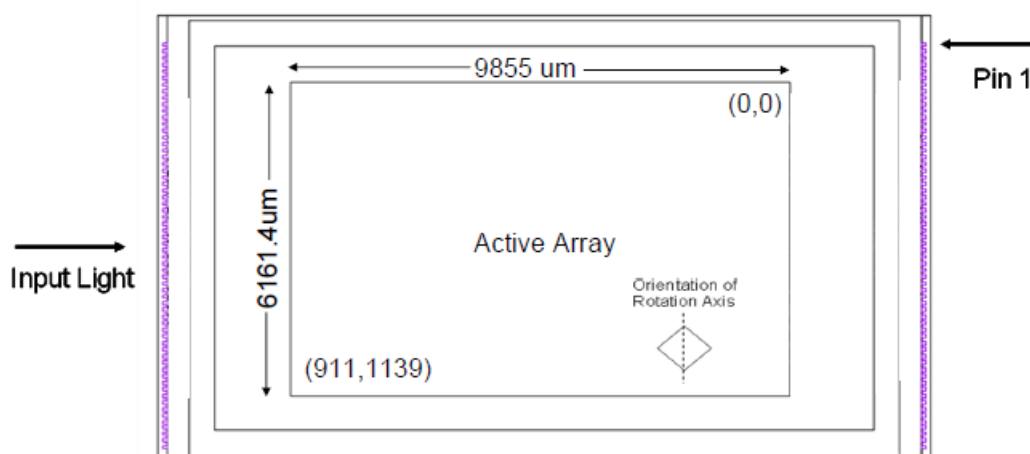

Figure 4. DLP4500NIR Micromirror Active Area
(1) See Micromirror Array, Pitch, and Hinge-Axis Orientation.
(2) See Micromirror Active Area in Figure 4.
(3) The mirrors that form the array border are hard-wired to tilt in the –12° ("Off") direction once power is applied to the DMD (see Micromirror Array, Pitch, and Hinge-Axis Orientation and Micromirror Landed Positions and Light Paths).